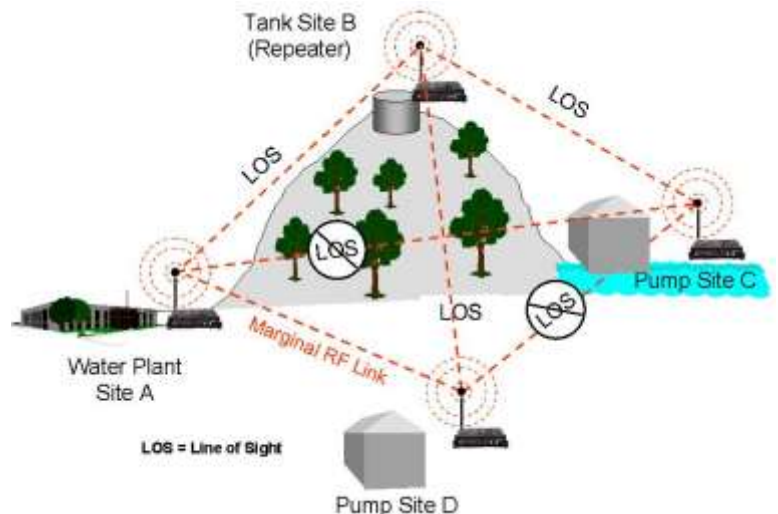

**Figure 1: Conventional Access Point Diagram**
With a conventional IEEE 802.11a Access Point (AP) network, all of the APs have to be interfaced to a common network either by hardware, see Figure 1, or a separate, dedicated RF backbone. The Model 195Ea can create this RF backbone, bridge Ethernet networks connected to the wired Ethernet port and provide the wireless canopy for 195Ea clients simultaneously.